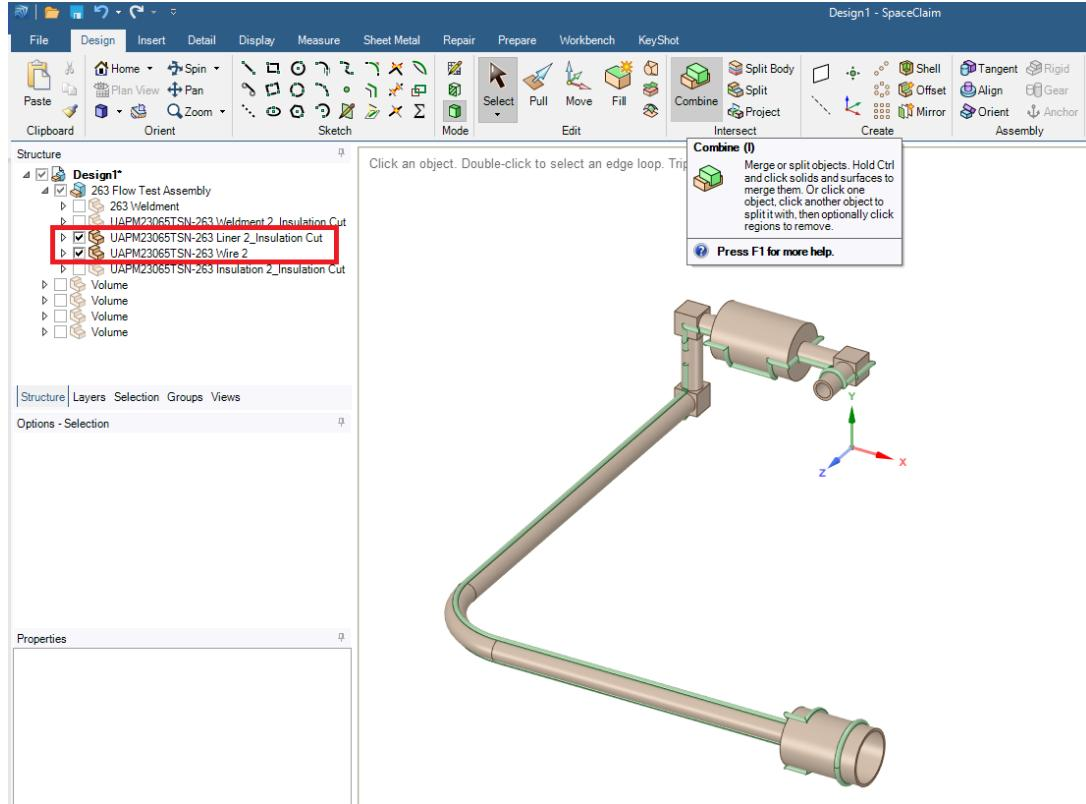

Figure 1.30:
- (i) For this step since we are looking at the Liner and Heating Wire, we will be hiding all other bodies to make sure any unwanted operations/modifications are not performed. For a Heating Wire Layout, we will be using the Combine Tool under the Design Tab - to imprint the Liner onto our Heating Wire as shown in Figure 1.30.